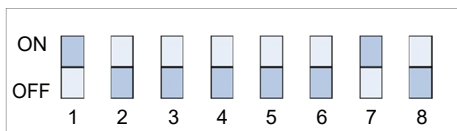

Figure 8-13 DIP switch factory default setting
- The location of the DIP switch is shown in Figure 8-13. It is an 8-bit DIP switch. Its factory default setting is shown in Figure 8-6.